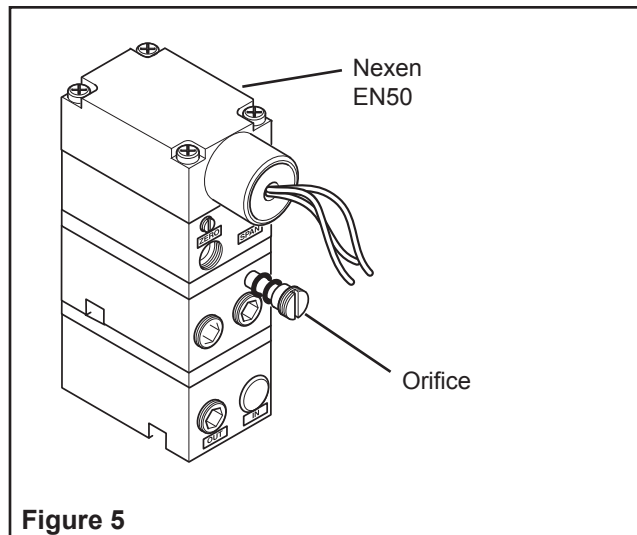

Figure 5
2. Remove the Orifice from the Nexen EN50 (See Figure 5).
3. Clean the Orifice with alcohol; then, dry the Orifice with compressed air (See Figure 5).
4. Reinstall the Orifice into the Nexen EN50 (See Figure 5).